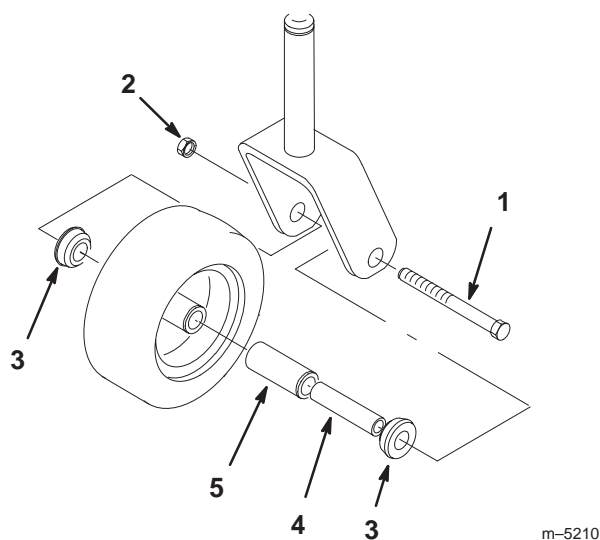

Figure 81
1. Remove the locknut and wheel bolt holding the caster wheel to the caster fork (Fig. 81).
2. Remove one bushing, then pull the spanner bushing and roller bearing out of the wheel hub (Fig. 81).
3. Remove the other bushing from the wheel hub and clean any grease and dirt from the wheel hub (Fig. 81).
4. Inspect the roller bearing, bushings, spanner bushing and inside of the wheel hub for wear. Replace any defective or worn parts (Fig. 81).
5. To assemble, place one bushing into the wheel hub. Grease the roller bearing and spanner bushing and slide them into the wheel hub. Place the second bushing into the wheel hub (Fig. 81).
6. Install the caster wheel into the caster fork and secure with the wheel bolt and locknut. Tighten the locknut until the spanner bushing bottoms against the inside of the caster forks (Fig. 81).